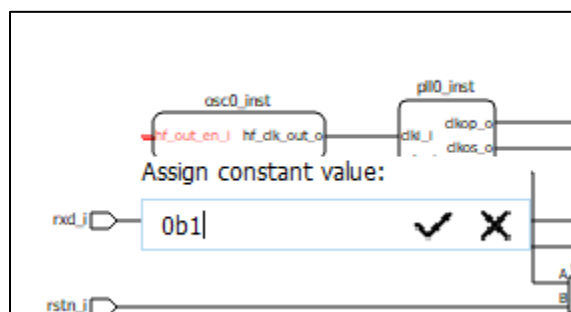

Figure 3.34. Assigning Constant Value to Oscillator Input
2. In the prompt, enter **1** to assign a constant value of 1 to the port input, as shown in Figure 3.34.